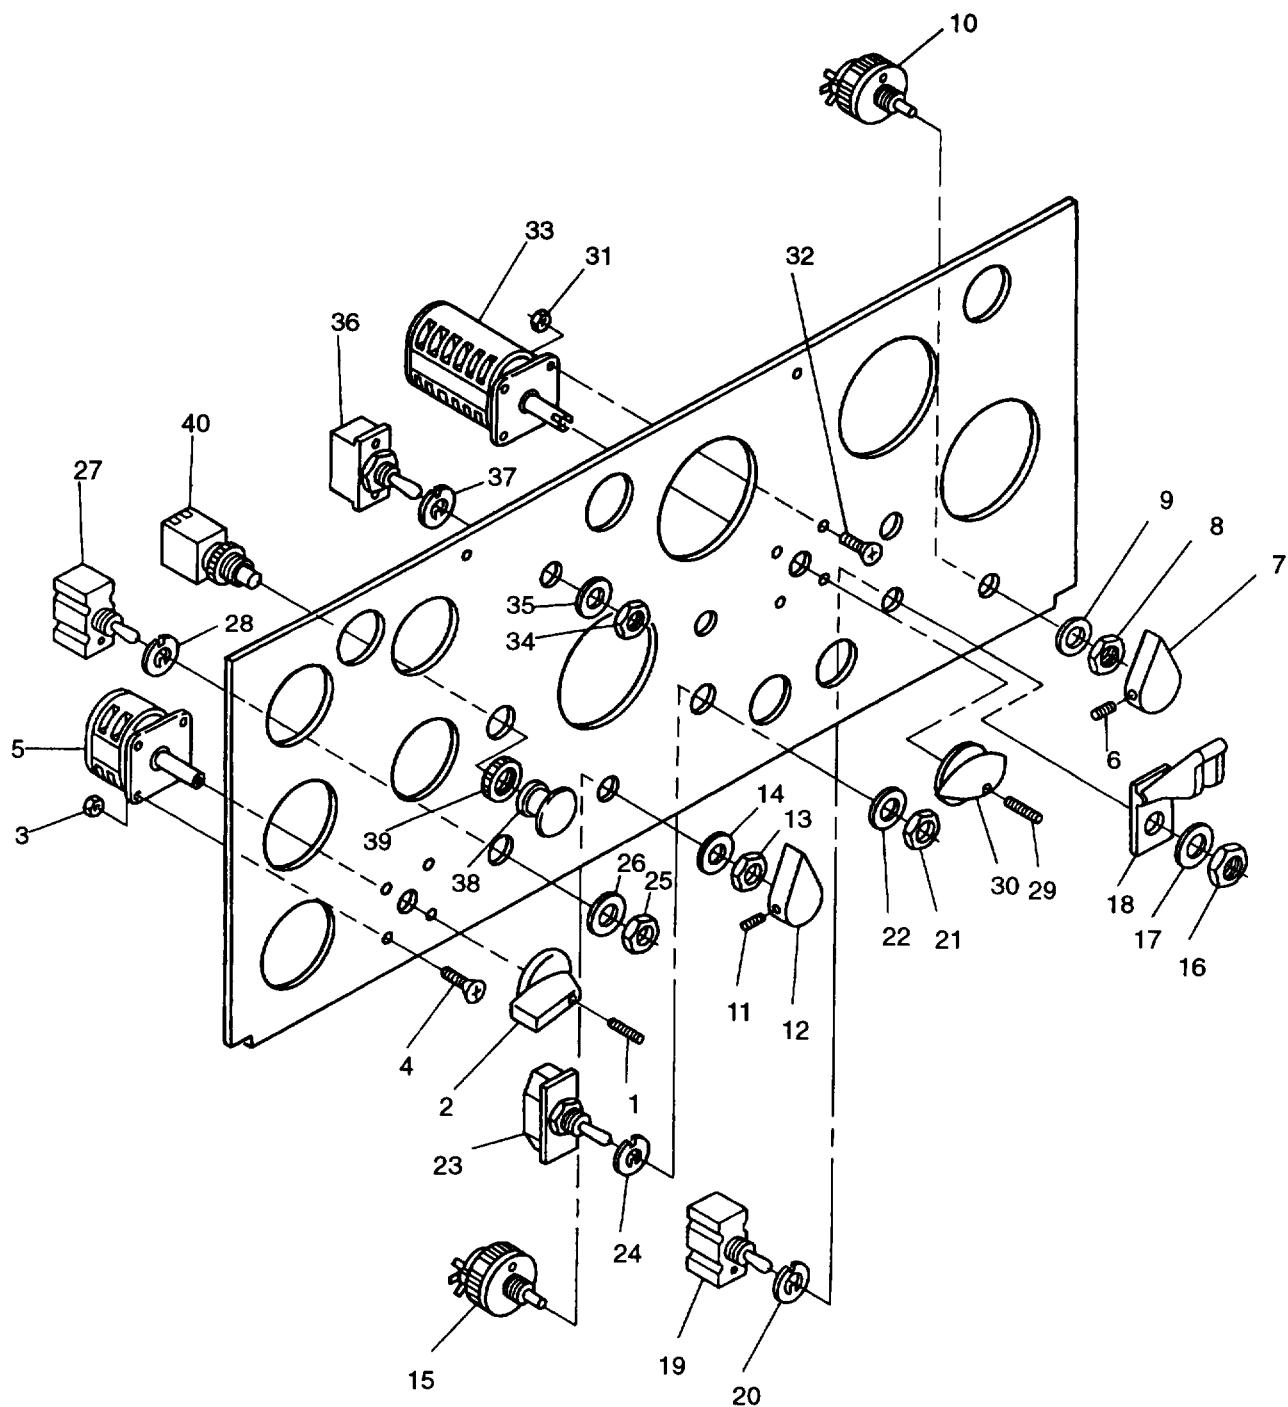

FIGURE 2-13. Control Panel Switches
- d Tag and disconnect VOLTAGE adjust potentiometer (10, FIGURE 2-13) rheostat electrical leads using soldering gun. Remove shrinkable tubing
- e. Remove set screws (6) and knob (7).
- f. Remove nut (8) and washer (9).
- g. Remove VOLTAGE adjust potentiometer (10) from control panel.
- a. Insert VOLTAGE adjust potentiometer (10, FIGURE 2-13) into control panel.
- b. install washer (9) and nut (8).
- c. Install knob (7) and set screws (6).
- d. Tag and disconnect FREQUENCY adjust potentiometer (15, FIGURE 2-13) electrical leads using soldering gun. Remove shrinkable tubing.
- e. Remove set screws (11) and knob (12).
- f. Remove nut (13) and washer (14).
- g. Remove FREQUENCY adjust potentiometer (15) from control panel.
- b. Set multimeter for ohms and connect across outer terminals of potentiometer (15, FIGURE 2-13). Multimeter should indicate between 4500 and 5500 ohms resistance.
- a. Insert FREQUENCY adjust potentiometer (15, FIGURE 2-13) into control panel.
- b. Install washer (14) and nut (13).
- c. Install knob (12) and set screws (11).
- d. Tag and disconnect BATTLE SHORT switch (19, FIGURE 2-13) electrical leads.
- e. Remove nut (16), washer (17), and protective cover (18).
- f. Remove BATTLE SHORT switch (19) from control panel and tab washer (20) from switch stem.
- j. Connect electrical leads to switch (19) and remove tags.
- a. Install tab washer (20, FIGURE 2-13) and insert BATTLE SHORT switch (19) into control panel,
- b. Install protective cover (18), washer (17), and nut (16).
- d. Tag and disconnect AC CIRCUIT INTERRUPTER switch (23, FIGURE 2-13) electrical leads.
- e. Remove nut (21) and washer (22).
- f. Remove AC CIRCUIT INTERRUPTER switch (23) from control panel and tab washer (24) from switch stem.
- n. Connect electrical leads to switch (23) and remove tags.
- a. Install tab washer (24, FIGURE 2-13) and insert AC CIRCUIT INTERRUPTER switch (23) into control panel.
- b. Install washer (22) and nut (21).
- d. Tag and disconnect PARALLEL-UNIT switch (27, FIGURE 2-13) electrical leads.
- e. Remove nut (25) and washer (26).
- f. Remove PARALLEL-UNIT switch (27) from control panel and tab washer (28) from switch stem.